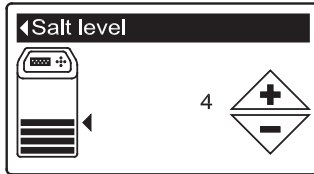

FIG. 28
1. When the conditioner/refiner is displaying the rolling status screens, open the salt lid. The tank light turns on and the Salt level screen appears (See Figure 28).
5. Press the SELECT (○) button to display the Salt level screen (See Figure 28). This screen will not automatically exit for 15 minutes.